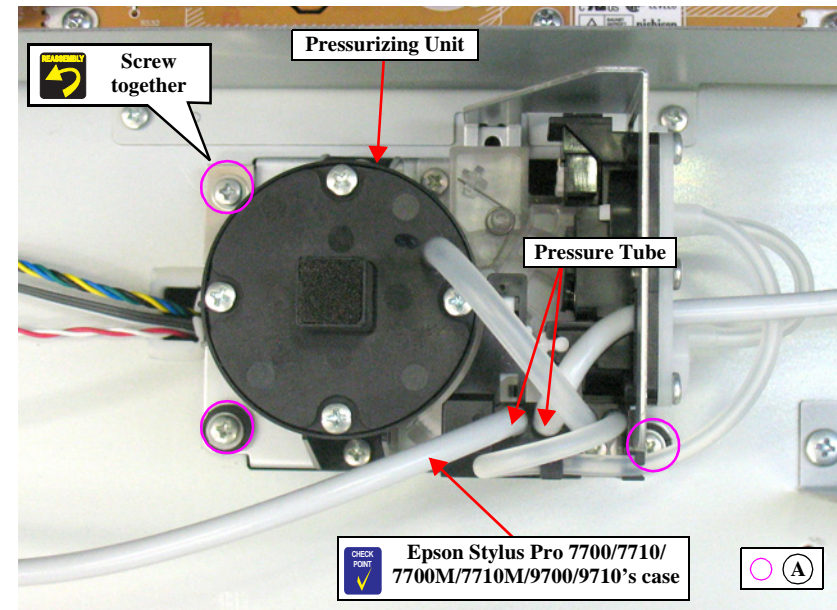

Figure 4-123. Removing the screws securing the Pressurizing Unit
*NOTE: In Epson Stylus Pro 7700/7710/7700M/7710M/9700/9710's case, disconnect only the Pressure Tube shown in **Figure 4-123**.*